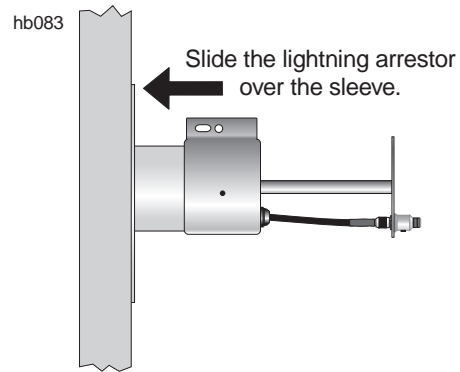

Figure 5-8 Attaching the arrester assembly to the sleeve
1. Slide the lightning arrester over the sleeve, as shown in figure 5-8.